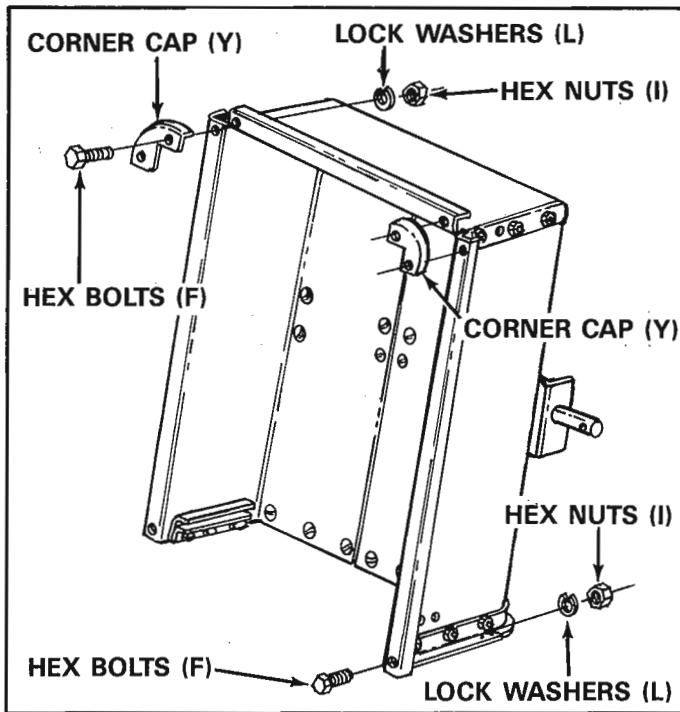

FIGURE 8
15. Assemble two front top corner caps (Y) and two bolts in top flanges through tailgate reinforcement bracket using 1/4" x 1/2" hex bolts (F), lock washers (L) and hex nuts (I). See figure 8.